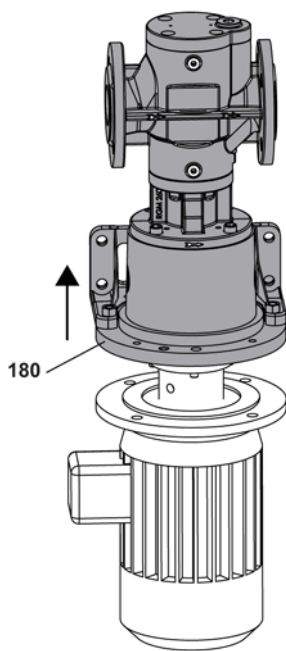

Fig. 3
2. Loosen the connecting screws between the motor and pump bracket **180** and lift the pump with pump bracket from the motor, see Fig. 3.